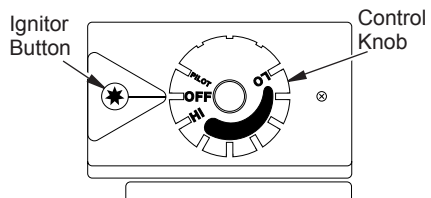

Figure 25 - Control Knob In The OFF Position
4. Wait five (5) minutes to clear out any gas. Then smell for gas, including near the floor. If you smell gas, **STOP!** Follow "B" in the safety information, column 1. If you don't smell gas, go to the next step.
5. Turn control knob counterclockwise ↺ to the PILOT position. Press in control knob for five (5) seconds (see Figure 25).